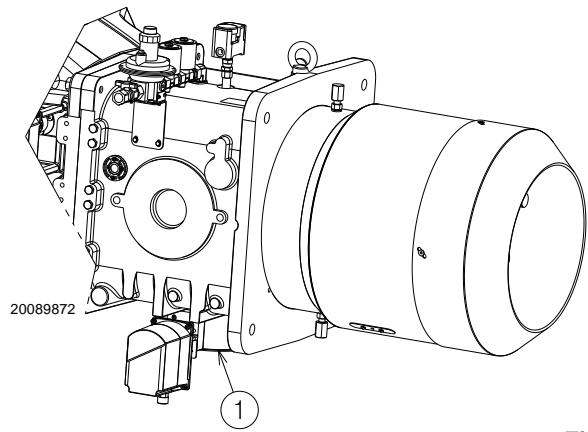

Fig. 21
Gas pressure measured at the test point 1) (Fig. 21), with:
Pressure loss at gas butterfly valve 2) (Fig. 21) with maximum opening: 90°.
- subtract the combustion chamber pressure from the gas pressure measured at test point 1) (Fig. 21).
Gas pressure at test point 1) (Fig. 21) = 59.2 mbar
To calculate the required gas pressure at test point 1) (Fig. 21), set the maximum modulating output required from the burner operation:
- read, on the right (column 1), the pressure at the test point 1) (Fig. 21).
Pressure required at test point 1) (Fig. 21).